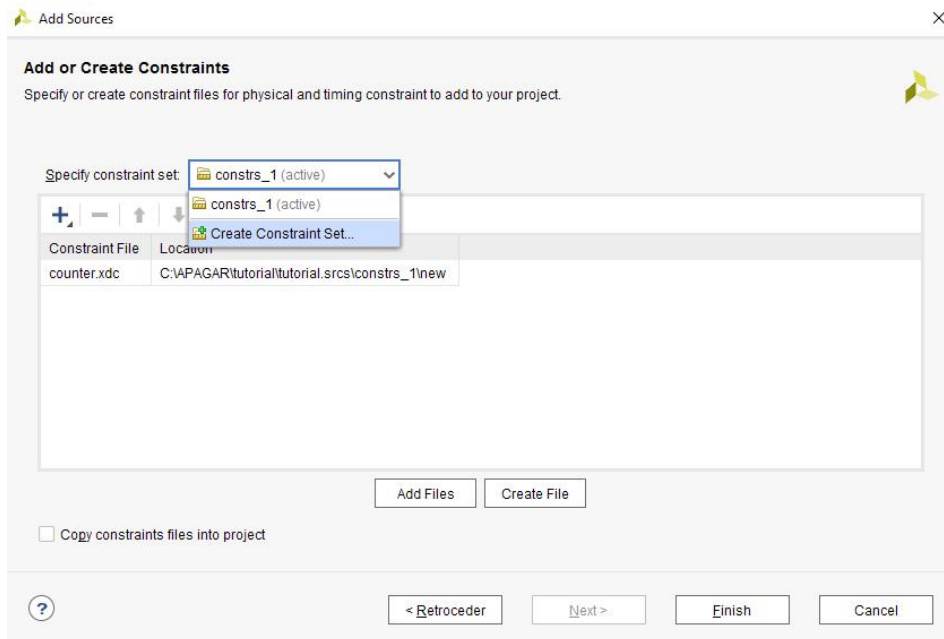

Figure 44
5. In the new window, open the drop-down menu in front of the **Specify constraint set:** entry, and select **Create Constraint Set...** (Figure 44)